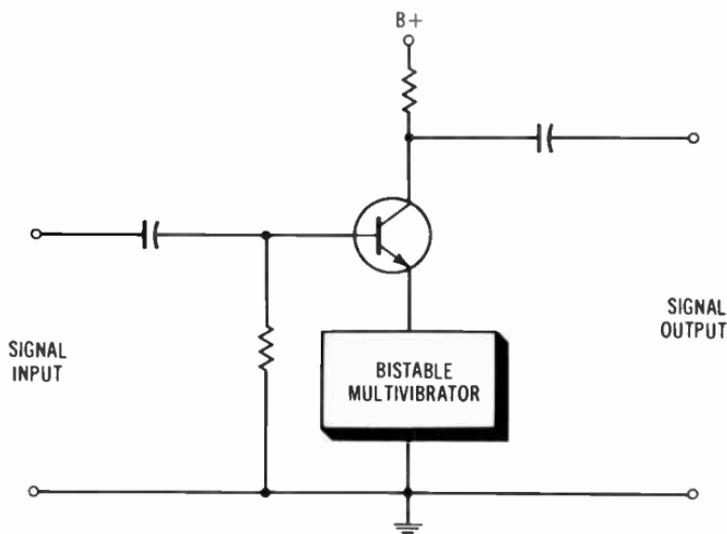

Fig. 7-13. A simple switching circuit.
The illustration in Fig. 7-13 shows an electronic switch that can be turned on or off by a single pulse. The input signal will be amplified only when the electronic switch is closed.
- Q7-22.** In Fig. 7-13, switching action depends on changing the voltage of the _____.
- A7-22.** In Fig. 7-13, switching action depends on changing the voltage of the emitter.